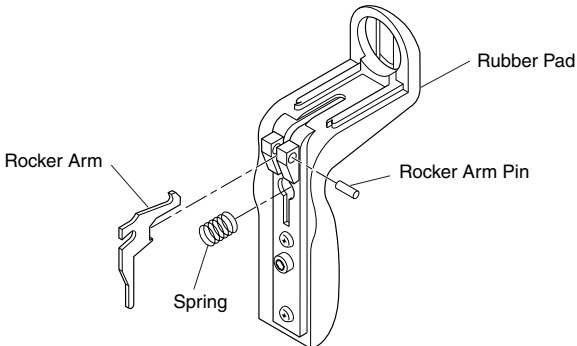

Figure 6 - Removing Rocker Arm
- Push out rocker arm pin (see Figure 6).